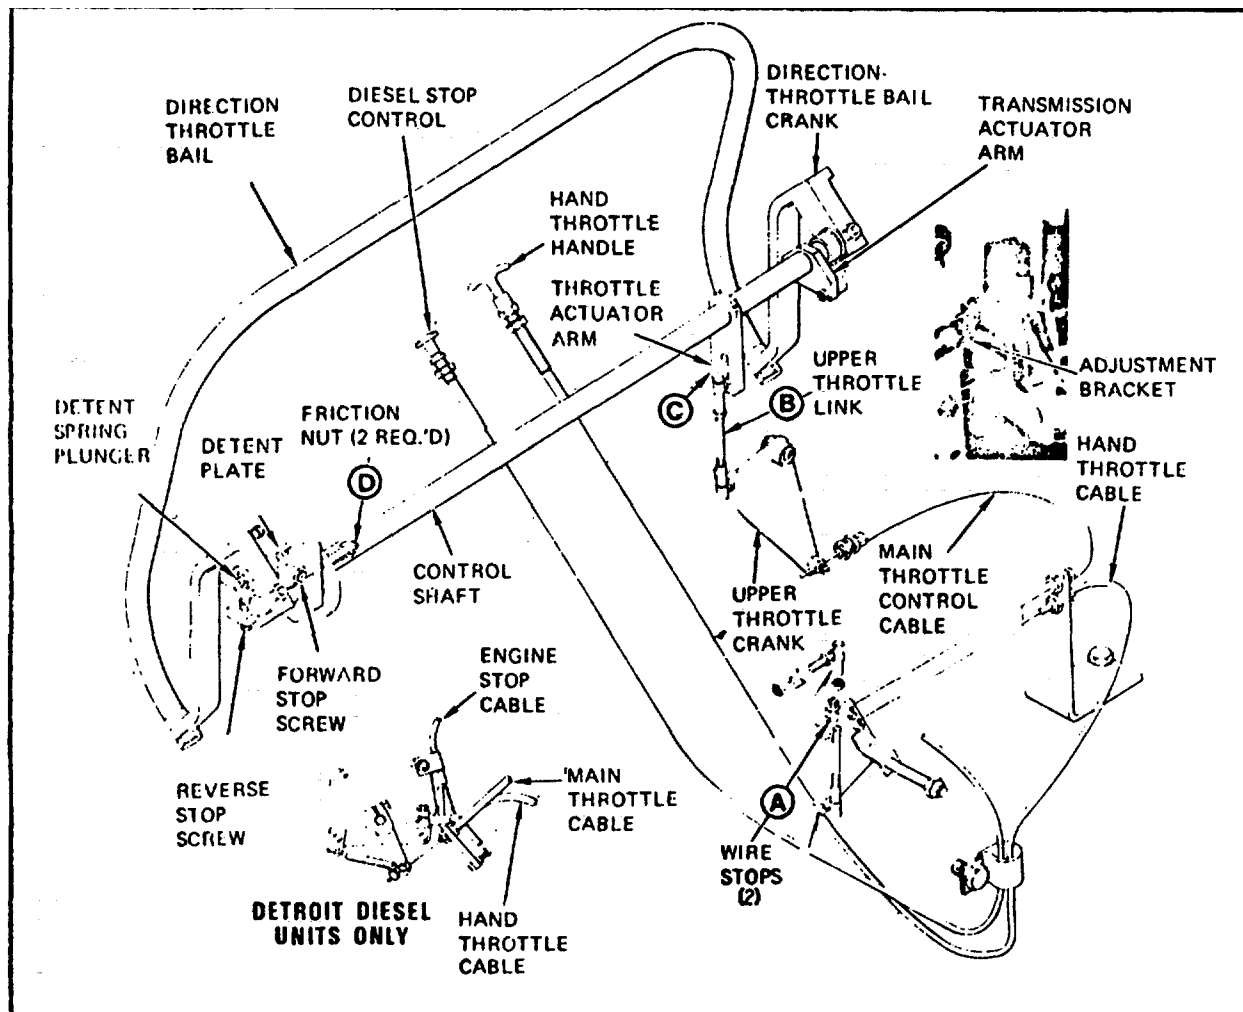

FIGURE 7-44.
5. Figure 7-44, page 7-35 is incorrect. Cross out entire figure. The revised figure is attached - please include in the manual.
f. Adjust and tighten wire stop at throttle crank for 1116 In. (1.59 mm) gap between swivel and wire stop (see figure 7-44).
ADJUSTMENT PROCEDURE (see figure 7-44).**